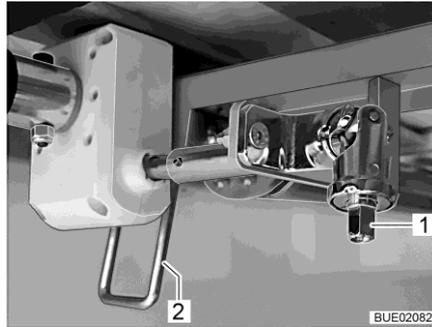

Fig. 132 Height adjustment
- Attach the crank onto the journal (Fig. 132,1).
- Swivel the lever (Fig. 132,2) downwards into vertical position.
- Swivel the lever (Fig. 132,2) upwards into horizontal position.